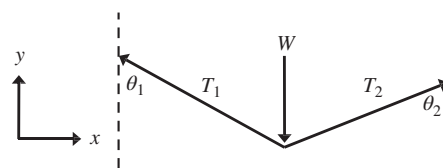

Figure P4.23 Force balance for a camper in a hammock.
- 4-23.** A hammock is suspended between two trees to support the weight of a camper, as shown in Fig. P4.23, such that $\theta_1 = 70^\circ$ and $\theta_2 = 85^\circ$.